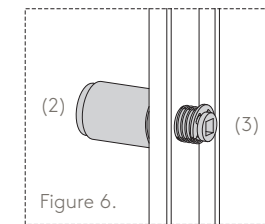

Figure 6.
- 4.2. Affix circlip to groove in snib neck on inside of backplate. (Figure 6.)